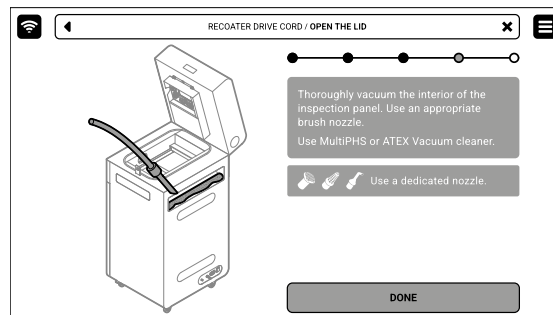

Fig. 13.91 Thoroughly clean behind the panel.
- Thoroughly vacuum the interior behind the panel with the ATEX/Intertek Vacuum Cleaner. Use an appropriate nozzle (fig. 13.91).